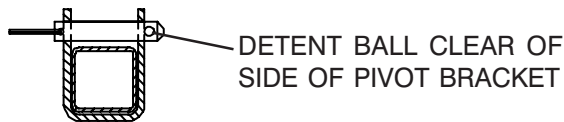

Figure 2-9. Correct Position of Locking Pin
**1- Guardrail Locking Pin With Lanyard** - To fold the guardrail system down, remove the locking pin at each pivot point and lower each guardrail. To raise the guardrail system, swing up each guardrail and lock in place with the locking pins ensuring that the detent ball of each pin is clear of the side of the pivot brackets. (Figure 2-9.)
3. If equipped with a fold-down guardrail system, swing up and lock all guardrails in place with locking pins. (Refer to Figure 2-9).